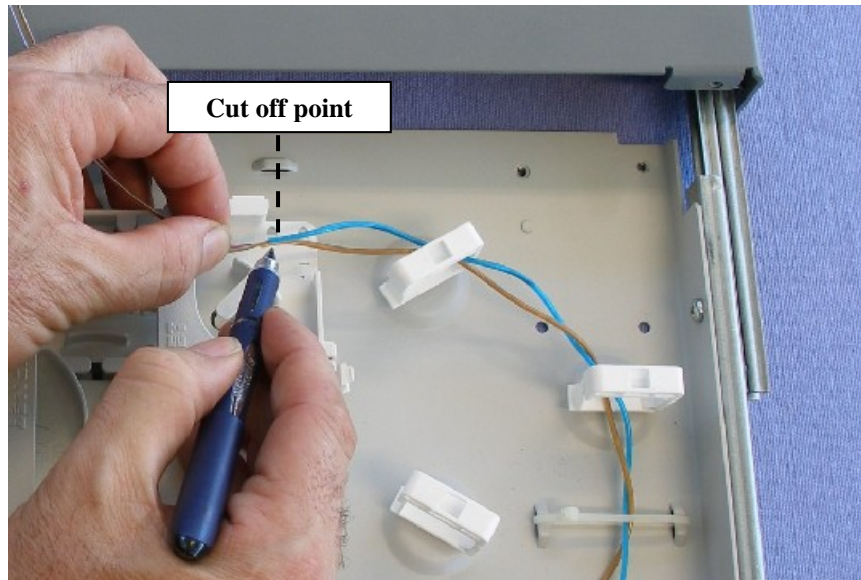

Figure 7. Loose tube cut off point
- b) Mark the cut off point for all loose tubes, as illustrated in Figure 7.